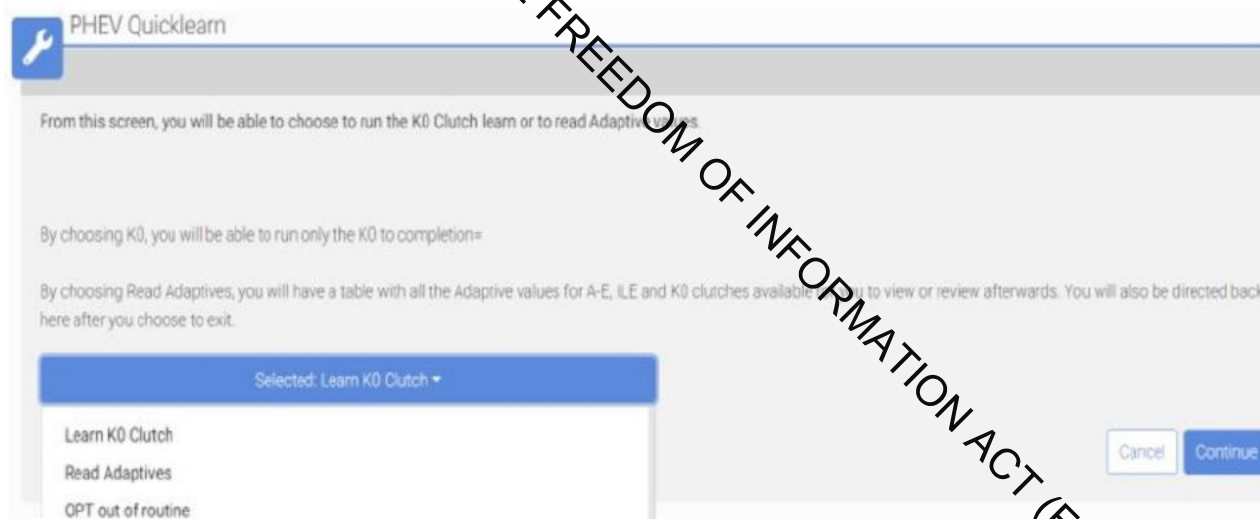

Fig. 1
6. Using a scan tool, record the K0 Filling Counter and K0 Fast filling Counter. This can be found in Transmission Control Module (TCM) Misc Functions in PHEV Quicklearn, Read Adaptives (Fig. 1).